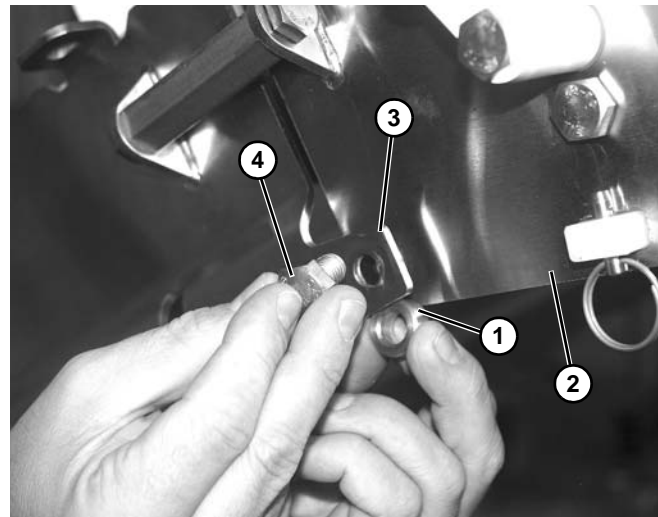

Figure 8
2. Install spacer (**Figure 8, item 1**) between frame (**Figure 8, item 2**) and upper knuckle plate (**Figure 8, item 3**). Secure with screw (**Figure 8, item 4**).